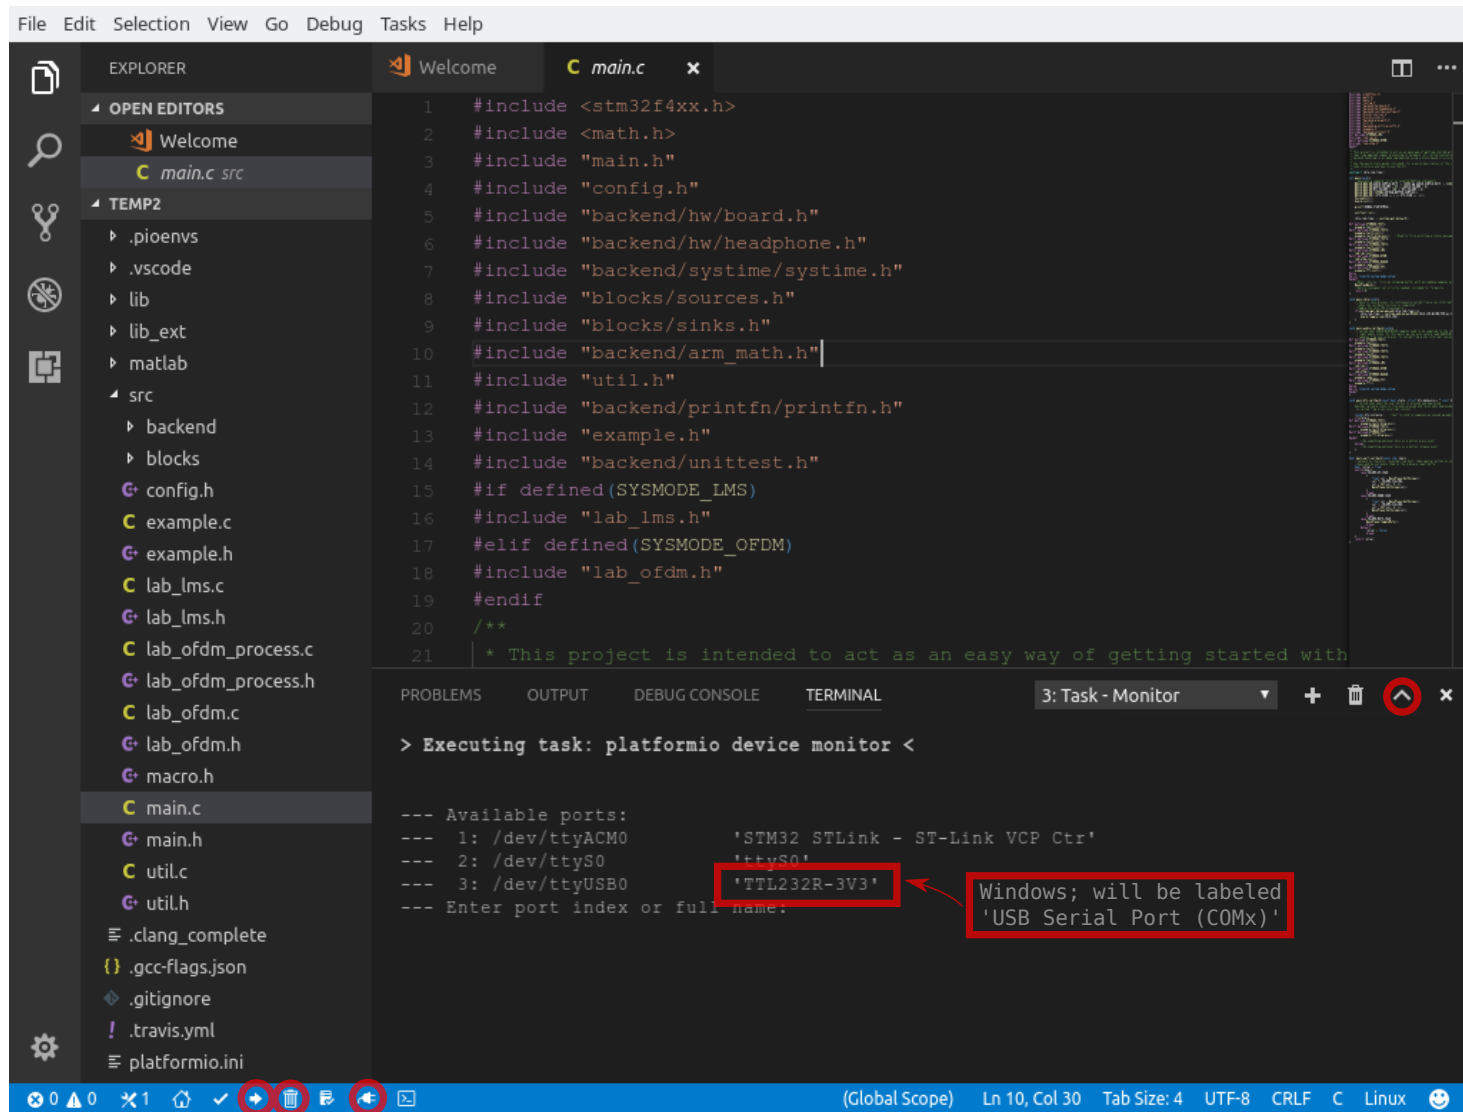

Figure 2: VSCode IDE.
2. The lower blue bar in VSCode should now contain the icons circled in Figure 2. If not, either PlatformIO has not been completely installed or you have not opened the correct directory.
5. Open the serial monitor, select the correct serial device (labeled `'TTL232R-3V3'` (Linux/Mac) or `'Usb Serial Port (COMx)'` (Windows)), and maximize the serial monitor window (the rightmost circled icon in Figure 2).
4. Use the upload button, lower leftmost in Figure 2, to upload the current source code to the DSP-kit.
5. Open/switch to and maximize the serial communication interface, lower and upper rightmost respectively in Figure 2, and interact with the DSP-kit as needed.